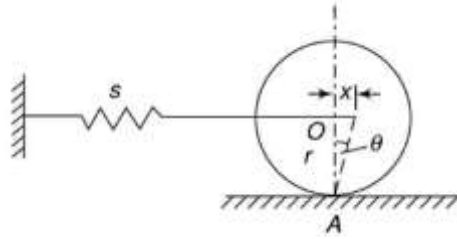

Fig. 2
- (c) Find the natural frequency of the oscillation in the cases shown in Fig. 2. The roller rolls on the surface without slipping. **07**